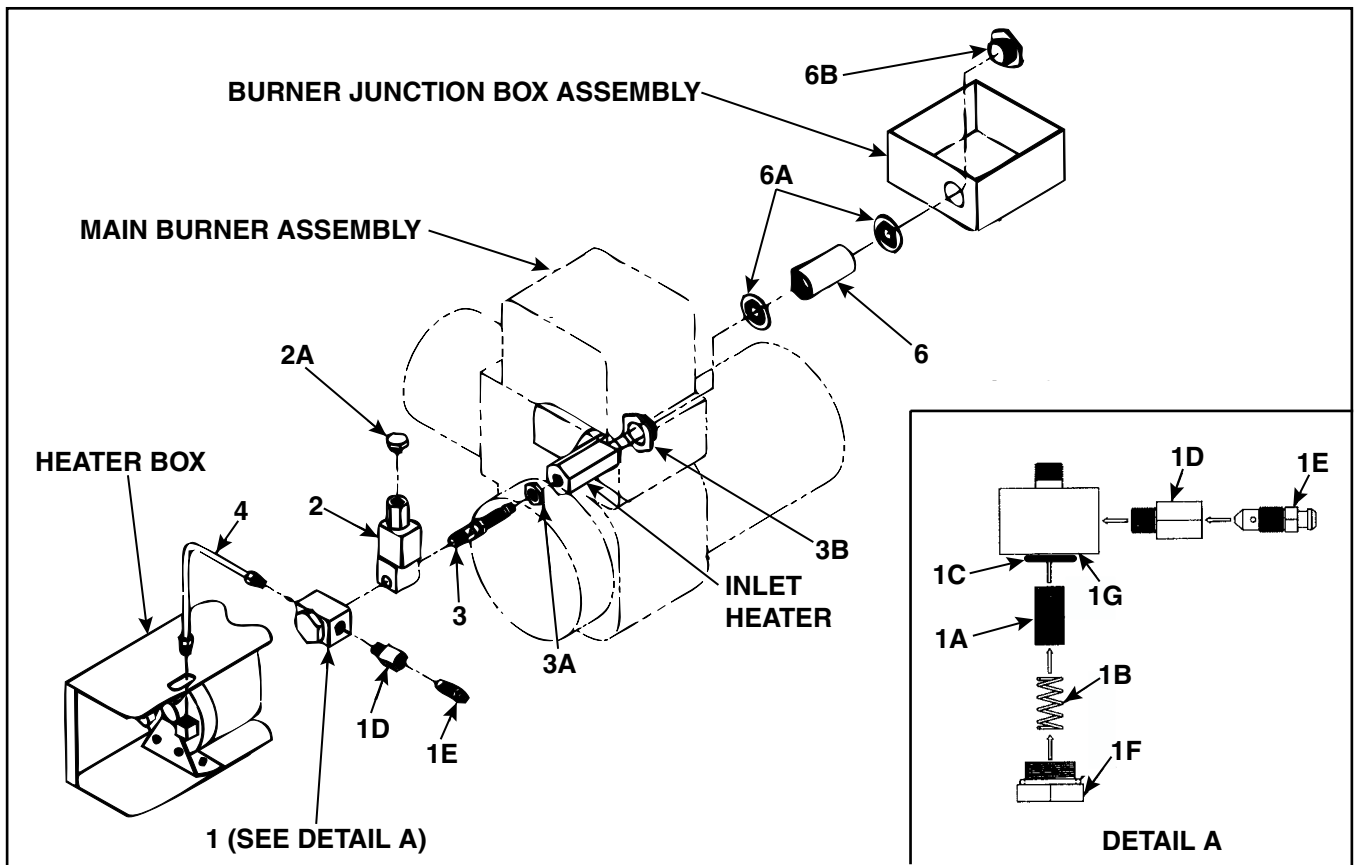

Figure 4. Burner Fuel Line Assembly (Refer to Table 6)
- Burner fuel line components are shown in Figure 4 and listed in Table 6.
- The oil solenoid valve (item 2) is to be piped as follows: port 1 to the secondary strainer assembly (item 1), port 2 to the fuel connection assembly (item 3), and port 3 to the hex head plug (item 2A). Install sleeving (item 2B) around the solenoid valve wires.
- Wrap insulation (item 4A) around the copper tubing assembly (item 4).
- The inlet heater (see Figure 4), fuel connection nut (item 3A), and chase nipple (item 3B) are located inside the burner housing assembly.